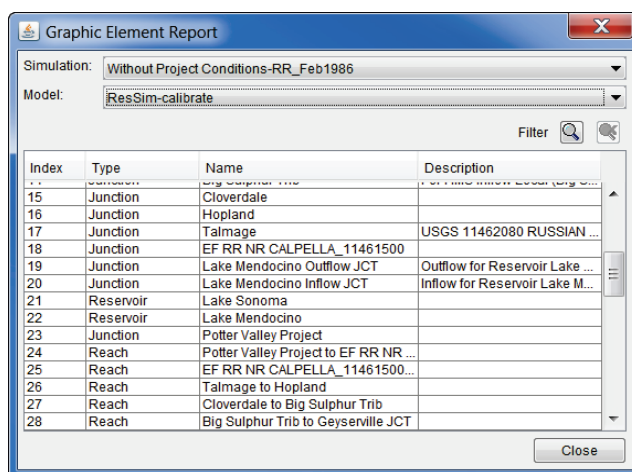
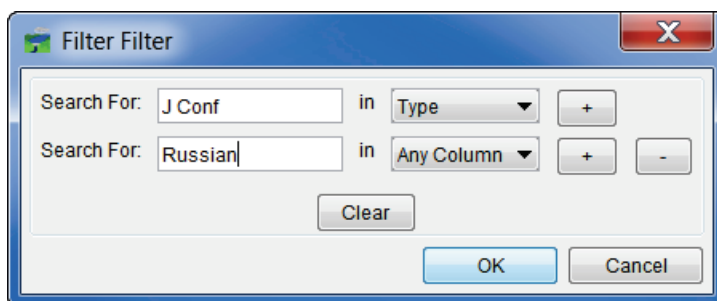

Figure B.28 Graphic Element Report Dialog Box
Figure B.29 Filter Dialog Box
- From the HEC-WAT main window (Figure B.2), from the **Tools** menu, click **Graphic Elements**, the **Graphic Element Report** dialog box will open (Figure B.28).
- From the **Simulation** list (Figure B.28) select a simulation (i.e., *Without Project Conditions-RR\_Feb1986*). From the **Model** list (Figure B.28), select a model alternative (i.e., *ResSim-calibrate*). The table will display the known graphic elements for the selected model alternative. This report can be used when debugging issues on the schematic of the selected simulation.
- If the report is lengthy, the user can search the listed graphic elements by using a filter. Click , a **Filter** dialog box will open (Figure B.29). By defining filters, the user can scan the list of graphic elements. Click **OK**, the **Filter** dialog box will close, and the table on the **Graphic Element Report** dialog box (Figure B.28) will reflect the results of the defined filter. To clear the filter, click .